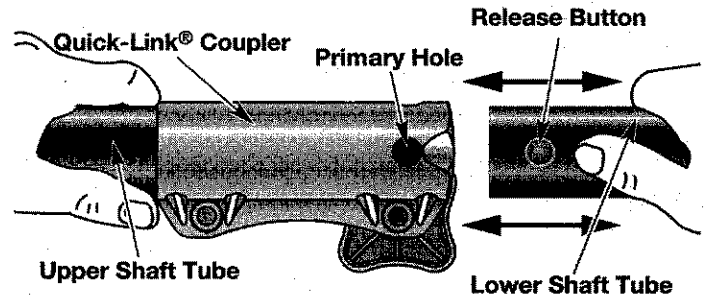

Fig. 25
3. Whilst firmly holding the upper Shaft Tube, pull the cutting attachment or add-on straight out of the Quick-Link® coupler (Fig. 25).
2. Whilst firmly holding the add-on, push it straight into the Quick-Link® coupler (Fig. 25).